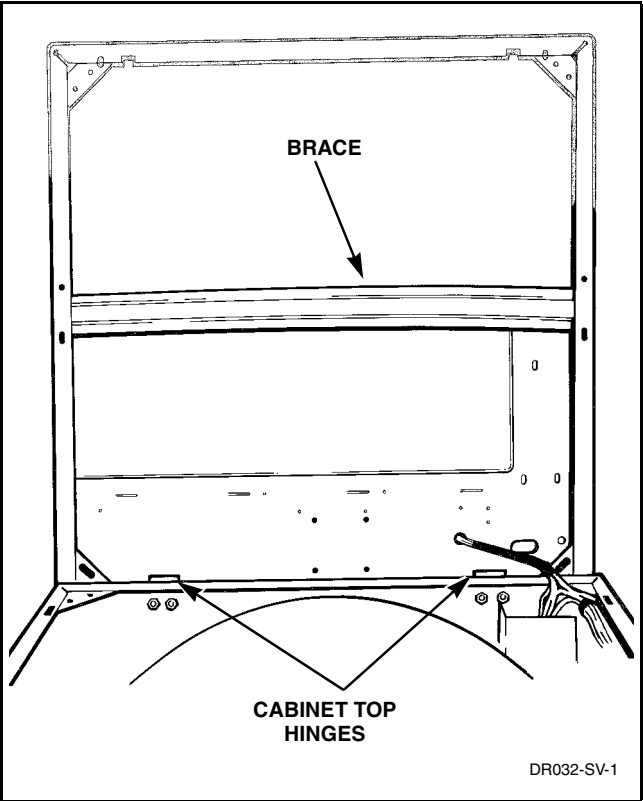

Figure 15
- m. Lift cabinet top to a vertical position by hinging it on the rear hold-down bracket. Refer to *Figure 15*.
- n. Carefully withdraw the wire harness through hole in cabinet top and lift the entire cabinet top assembly off the hold-down brackets. Refer to *Figure 15*.
- l. Lift cabinet top to a vertical position by hinging it on the rear hold-down brackets. Refer to *Figure 15*.
- m. Carefully withdraw wire harness through hole in cabinet top and lift the entire cabinet top assembly off the hold-down brackets. Refer to *Figure 15*.
- m. Lift cabinet top to a vertical position by hinging it on the rear hold-down brackets. Refer to *Figure 15*.
- n. Carefully withdraw wire harness through hole in cabinet top and lift the top off the hold-down brackets with timer case attached. Refer to *Figure 15*.
- q. Remove brace from underside of cabinet top by swinging one end toward front or rear. Refer to *Figure 15*.
- n. Lift cabinet top to a vertical position by hinging it on the rear hold-down brackets. Refer to *Figure 15*.
- o. Carefully withdraw the wire harness through hole in cabinet top and lift the top off the hold-down brackets with meter case attached. Refer to *Figure 15*.